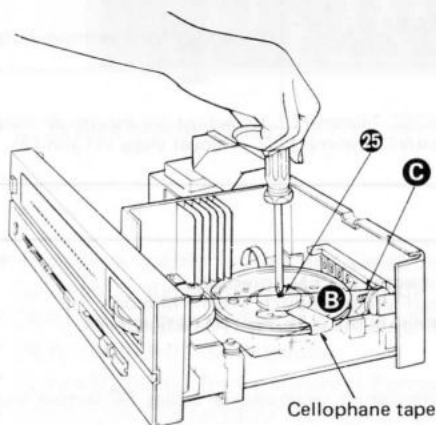

Fig. 5
2. Set the dial pointer to the start position (minimum frequency), then stick a cellophane tape to the contact **B** of dial cord (Fig. 5) so that the dial drum will not come loose from the dial cord.
3. Remove the 1 setscrew (Fig. 5 : **25**) from the Dial drum.
4. Remove the dial cord from the pulley. (Fig. 5 : **C**)